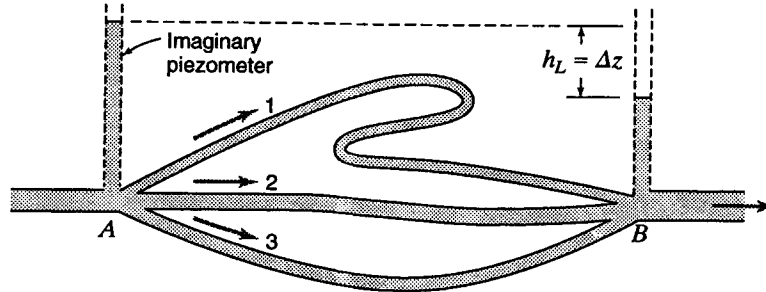

Figure 8.30
8.102 Suppose that in Fig. 8.30 pipes 1, 2, and 3 are of smooth brass as follows: 500 ft of 2-in, 350 ft of 3-in; and 750 ft of 4-in respectively. When the total flow of 70°F crude oil ( $s = 0.855$ ) is 0.7 cfs, find the head loss from A to B and the flow in each pipe. Note: This problem can be solved without trial and error, using a basic scientific calculator only.